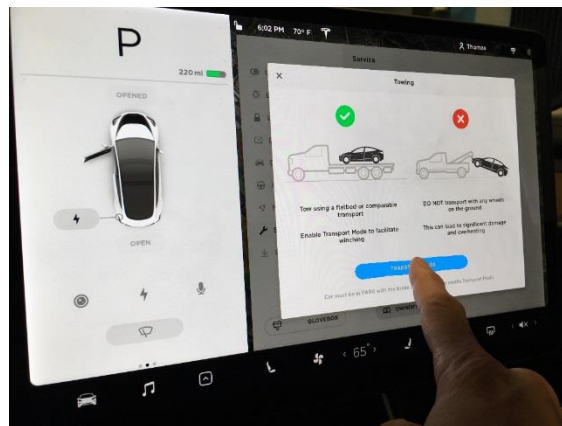

Figure 5 (Activate Transport Mode, Model 3, other models similar)
4. Press and hold the brake pedal, then on the vehicle touchscreen, touch Controls (vehicle icon), touch Service, touch Towing, and then touch and hold the Transport Mode button until it turns blue to activate Transport Mode (Figure 5).